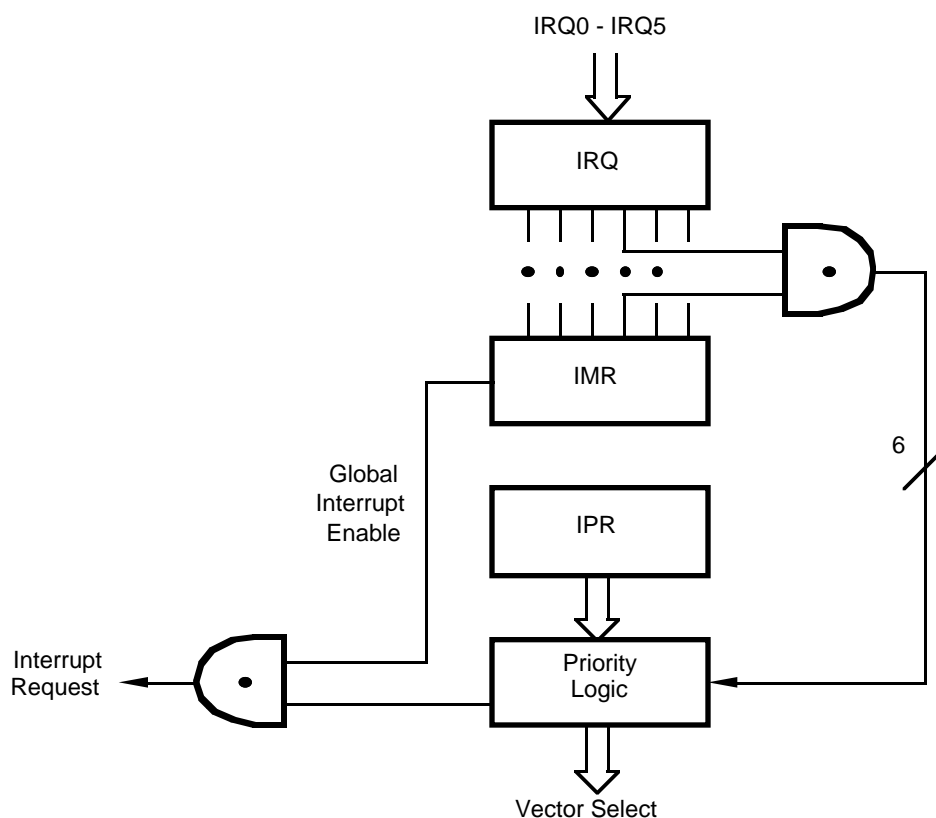

Figure 16. Interrupt Block Diagram
**Interrupts.** The Z86E23 has six different interrupts from six different sources. The interrupts are maskable and prioritized. The six sources are divided as follows; four sources are claimed by Port 3 lines P33-P30, and two by the counter/timers (Figure 16). The Interrupt Mask Register globally or individually enables or disables the six interrupt requests. When more than one interrupt is pending, priorities are resolved by a programmable priority encoder that is controlled by the Interrupt Priority register.